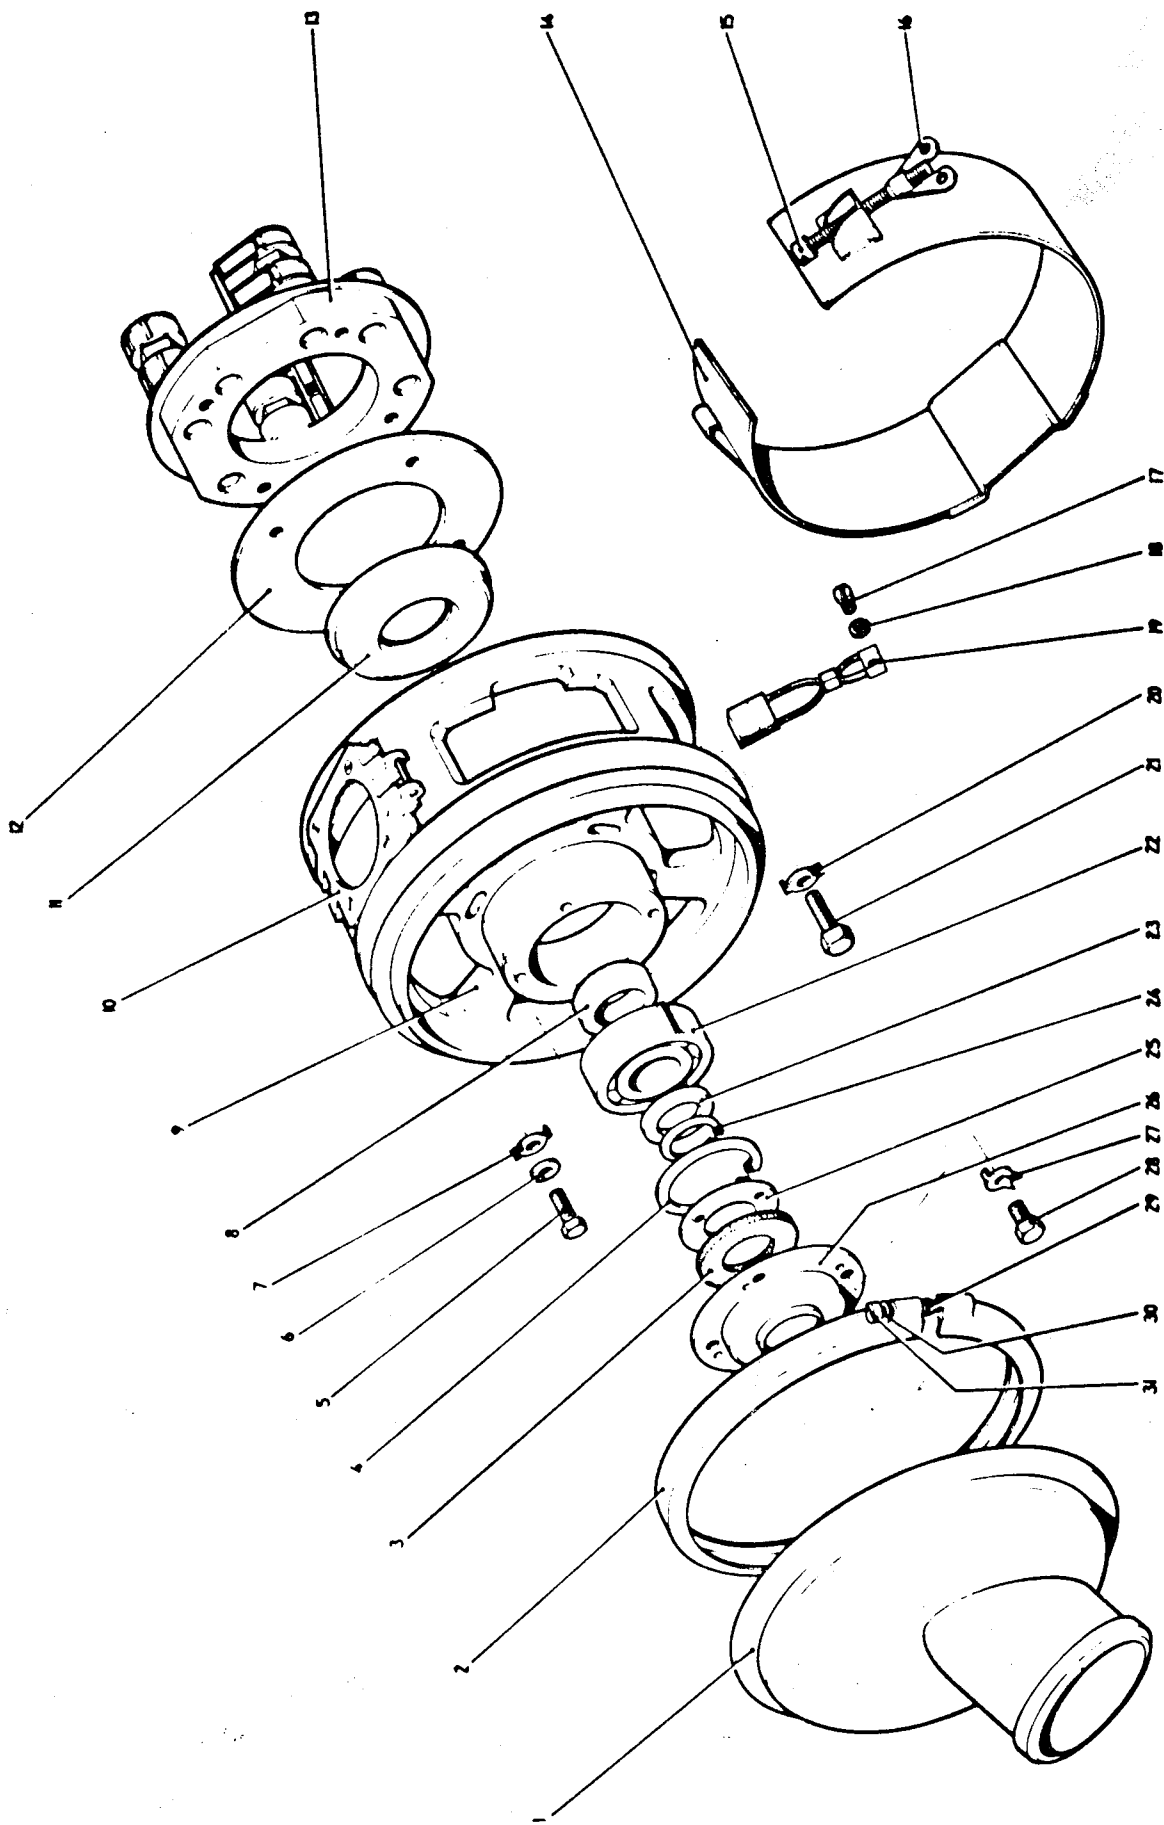

Fig.1 Generator, commutator-end - exploded view
## Key to fig.1
3. To dismantle the generator refer to fig.1 and proceed as follows: